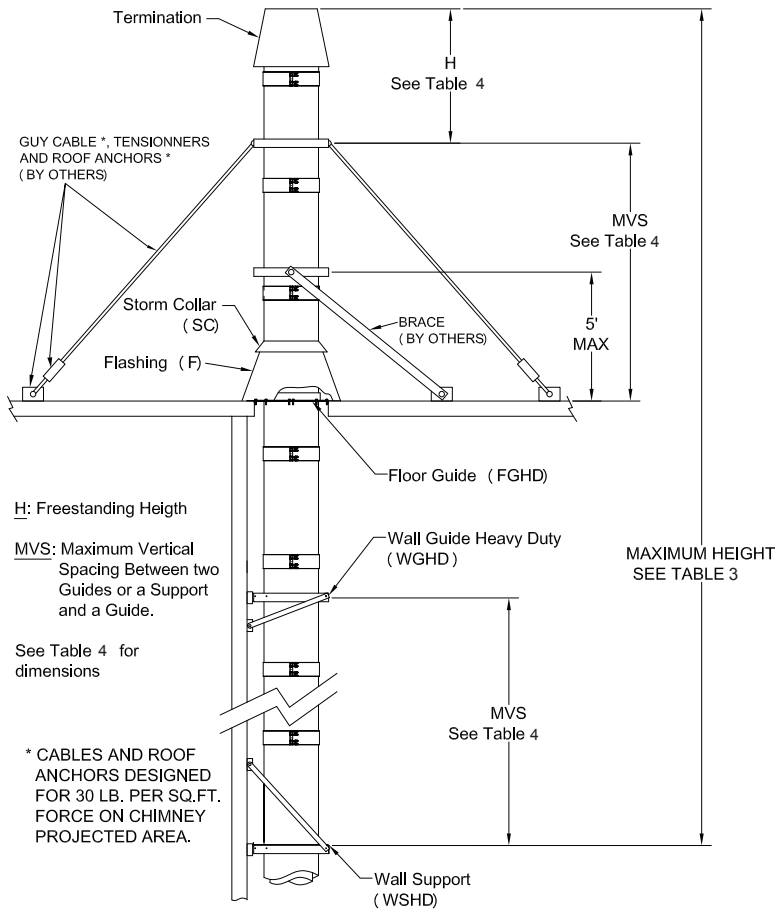

Figure 6 - Height with rigid bracing or guying option for DAS1-(BC)
• If Dimension "H" exceeds the value in the Table 7 & 8, use bracing or cable guying to stabilize chimney section above the roof. See Figure 6